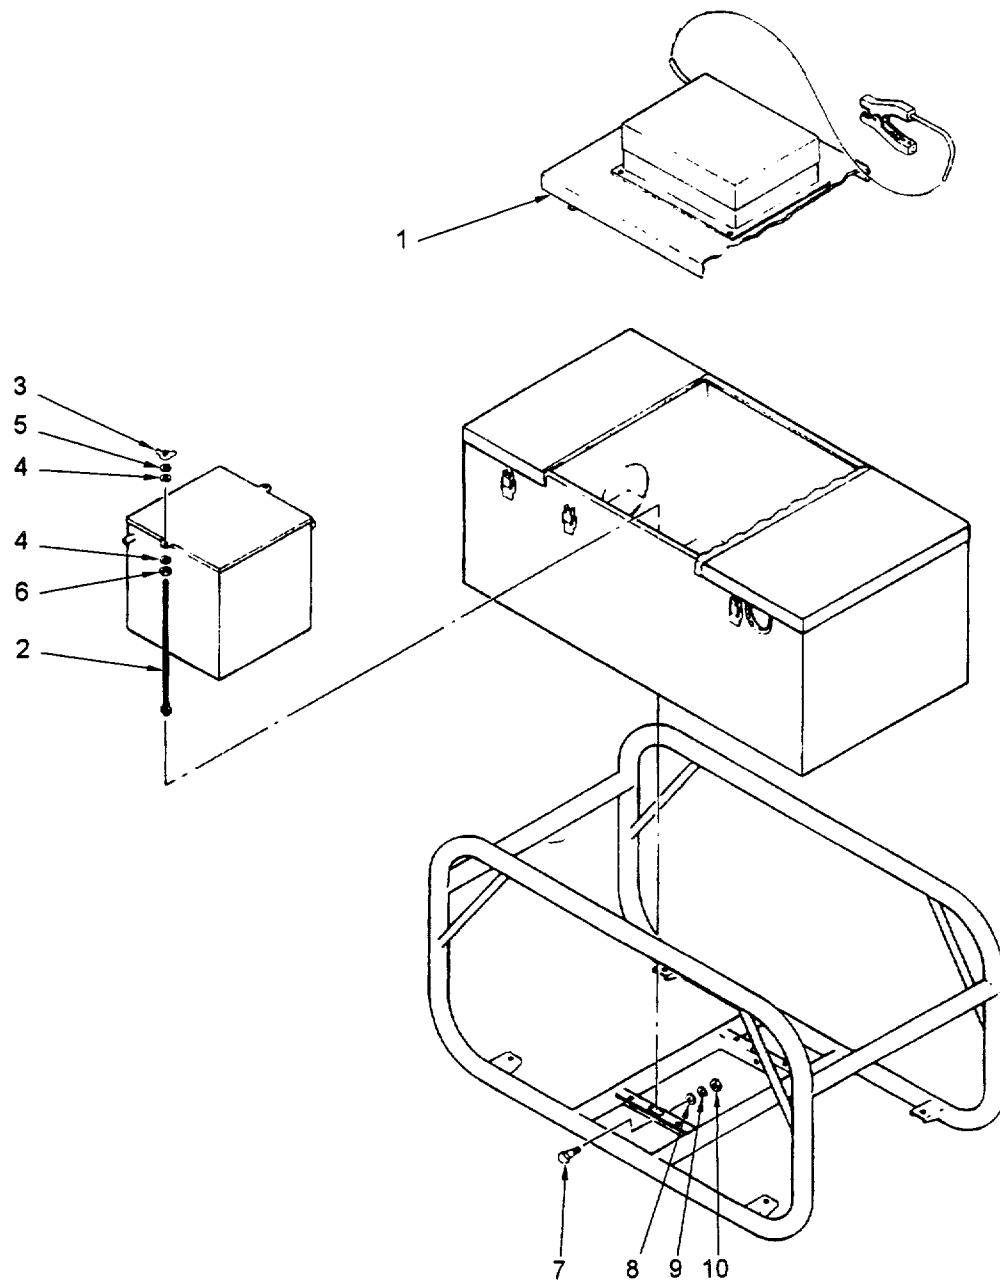

Figure 4-28. Battery Holddown Repair
4.15.5 Repair Battery Holddown. (Refer to figure 4-28.)**NOTE**